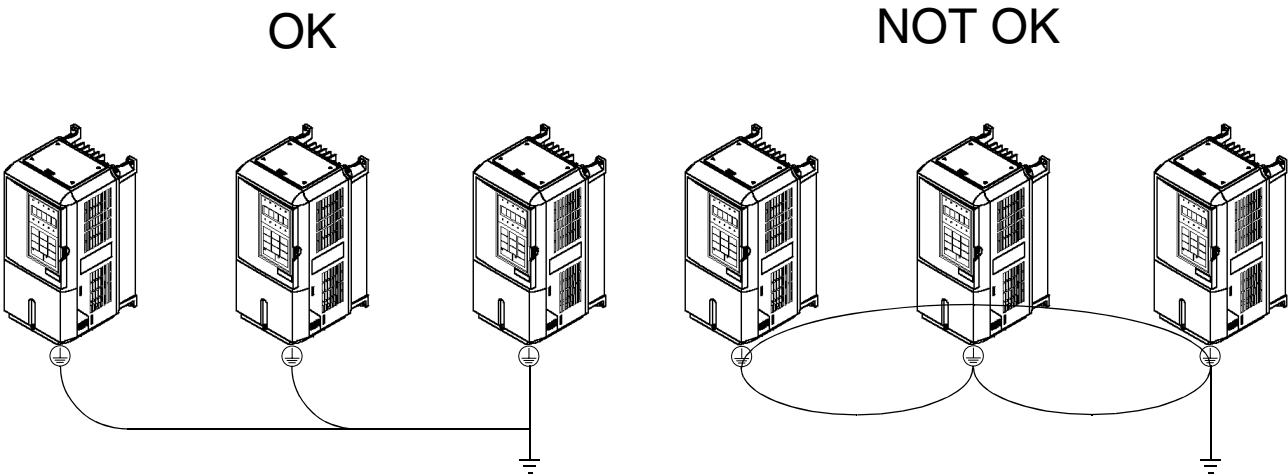

Fig 2.4 Ground Wiring Examples
- 5. When using more than one Drive, be careful not to loop the ground wire. See Fig 2.4.